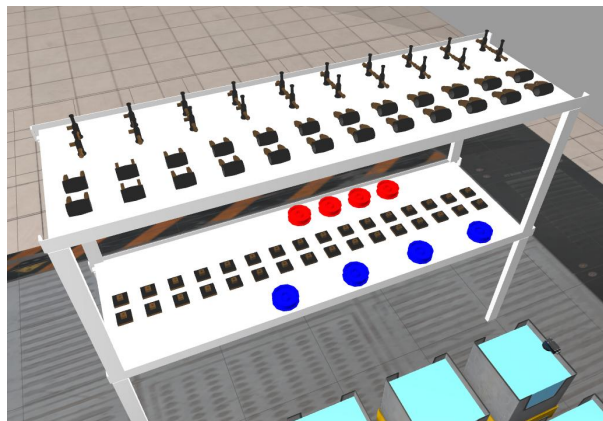

Figure 1: Parts spawn in a single on each side of a shelf.
- Robot can pick up each part type from shelves 1, 2, 5, 8, and 11. In the final YAML file, parts will be spawned in a single row. An example is shown in Figure 1.
The YAML snippet corresponding to Figure 1 is shown below.